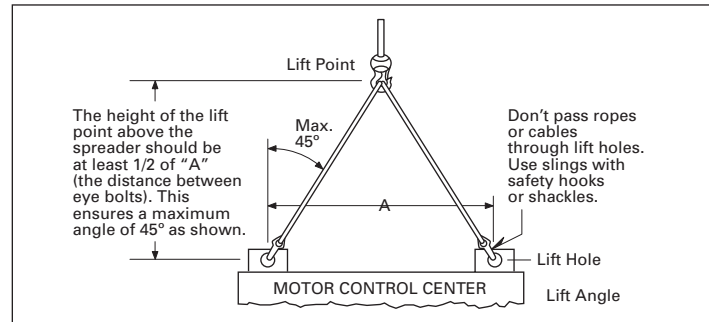

Figure 3. Correct Use of Lifting Angle
1. See **Figure 3** for recommended lifting configuration.